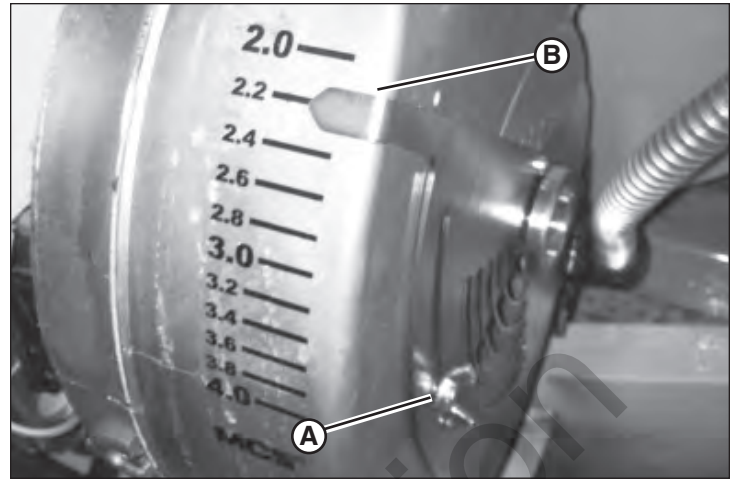

Figure 23
5. The damper is located below the power box. Loosen the wing nut (A, Figure 23), and set the damper by moving the pointer (B) to the number setting shown on the display. Tighten the wing nut.